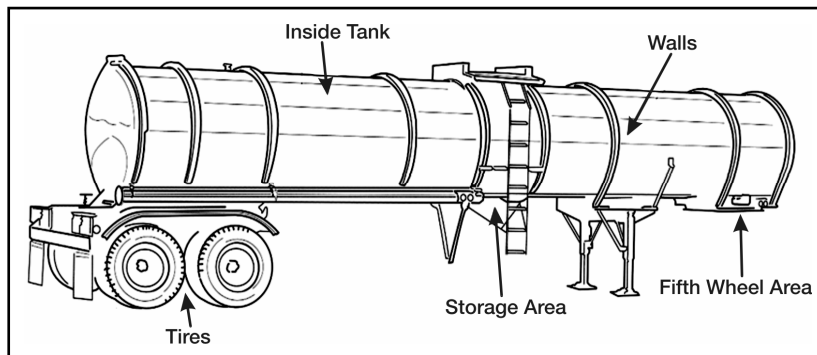

Figure 191-376-5141-6. Liquid tanker
g. Determine if the commercial vehicle is a propane tanker (see figure 191-376-5141-7).